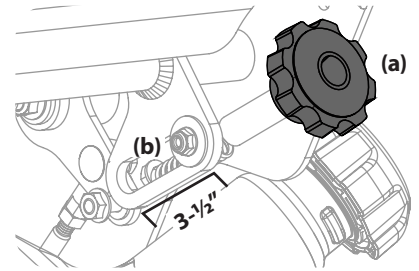

Figure 26
2. Adjust the tracking knob (a) until the threaded rod (b) is flush with the end. See Figure 26. The length of the spring should be approximately 3-1/2" for proper adjustment.